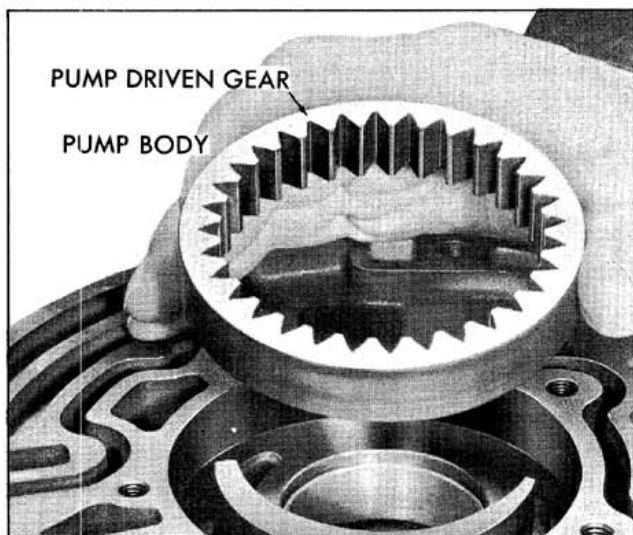

Fig. 6-110 Removing Driven Gear
15. Remove the driven gear from pump body. (Fig. 6-110)